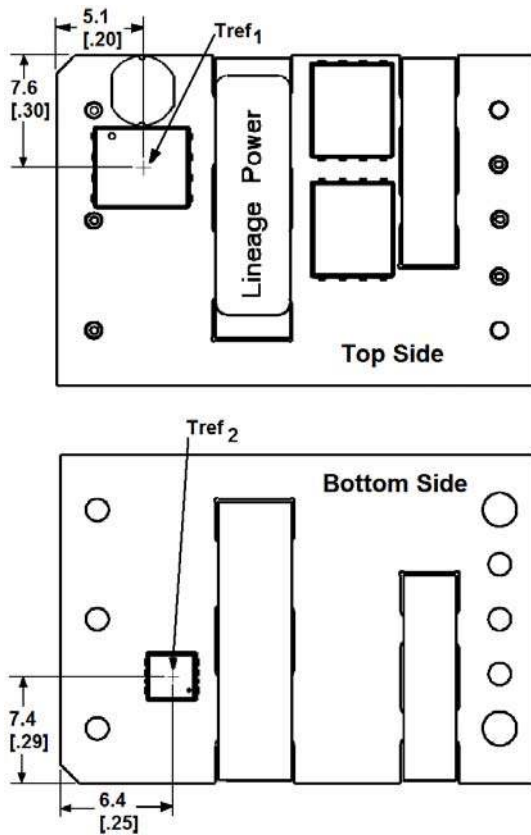

Figure 13. Tref_x Temperature Measurement Location.
To provide protection under certain fault conditions, the unit is equipped with a thermal shutdown circuit. The unit will shutdown if the thermal reference point T_{ref} (Figure 13), exceeds 128-133 $^{\circ}$ C (typical) depending on T_A and airflow, but the thermal shutdown is not intended as a guarantee that the unit will survive temperatures beyond its rating. The module can be restarted by cycling the dc input power for at least one second or by toggling the remote on/off signal for at least one second. If the auto-restart option (4) is ordered, the module will automatically restart upon cool-down to a safe temperature.
The thermal reference points, $T_{ref,x}$, used in the specifications are shown in Figure 13. For reliable operation, the temperature of both T_{ref} points should not exceed 125°C.